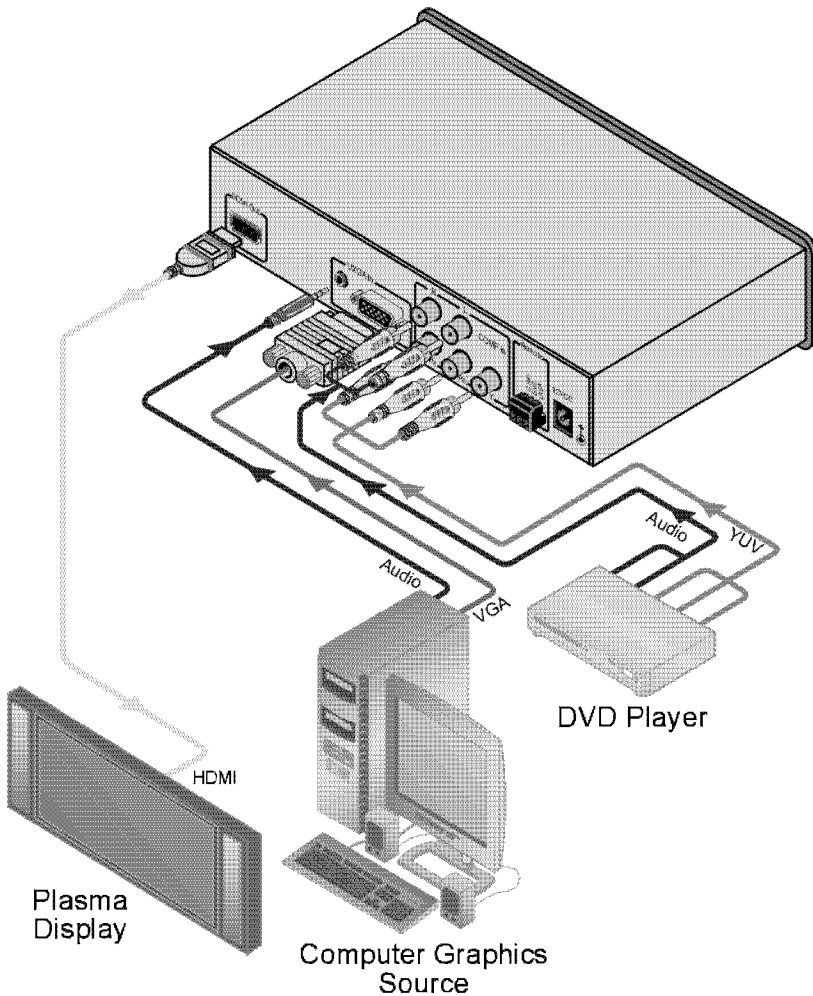

Figure 2: Connecting the VP-434 Component / UXGA HDMI Scaler
To connect² your **VP-434**, as illustrated in the example in Figure 2, do the following³:
4. Connect the 12V DC power adapter to the power socket and connect the adapter to the mains electricity (not shown in Figure 2).